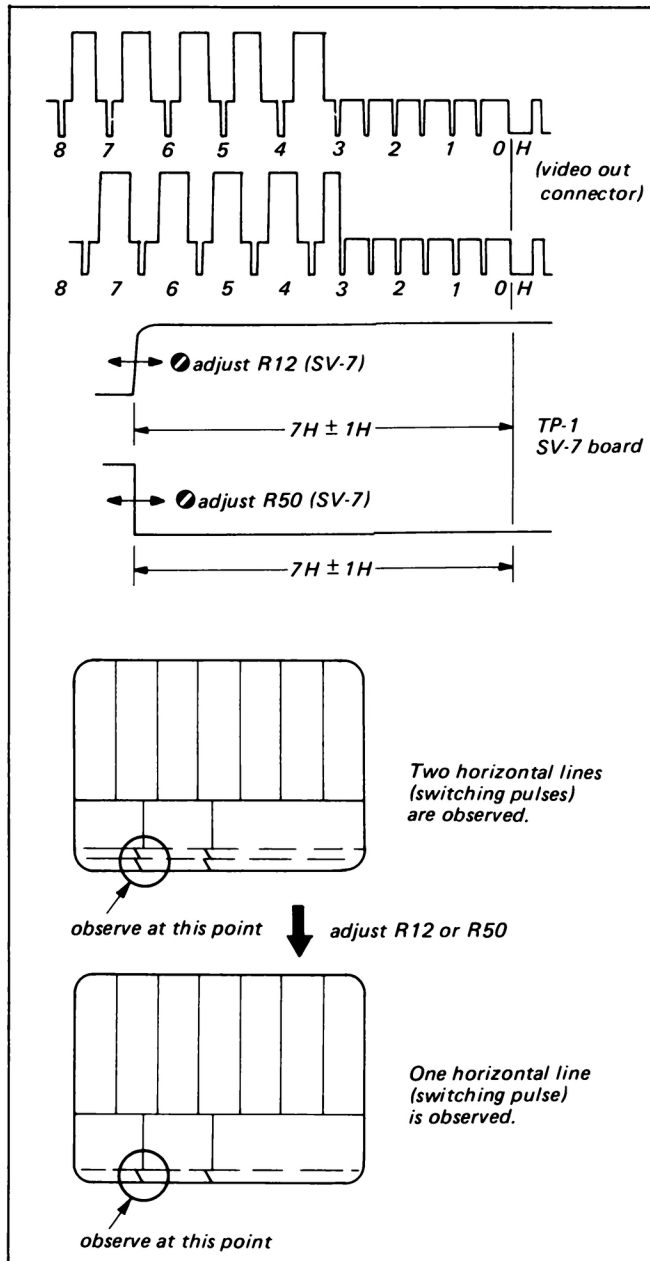

Fig. 8-9. Switching position adj.
3. Observe the monitor picture and confirm that the switching pulse shown in Fig. 8-9 are not two but only one observed at the lower section of the picture.
4. Adjust R12 and R50 on the SV-7 board shown in Fig. 8-9 for the specification.